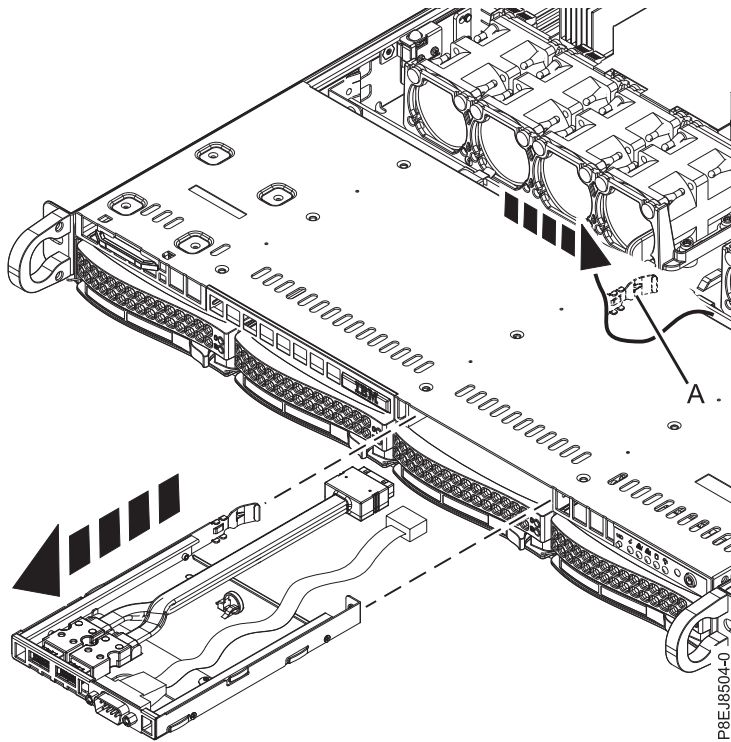

Figure 61. Removing the USB cable and connectors
3. Remove the USB cable and connectors as shown in Figure 61 on page 58.
- a. Push the release latch (A) to the left, and slightly push the latch towards the front of the chassis. This releases and pushes the USB cable and connectors out of the front of the chassis.